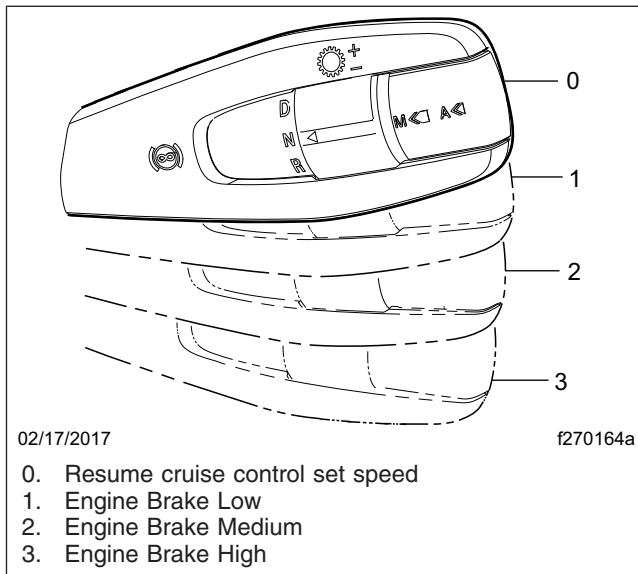

Fig. 7.3, Descent Control Mode Engine Brake Positions
3. Set the engine brake to any of the three 'on' positions as shown in Fig. 7.3.
While in cruise control, activate deceleration mode turning on the engine brake using the right-hand stalk switch as shown in Fig. 7.3. The vehicle decelerates at a constant rate until the vehicle comes to a stop, unless the accelerator pedal is applied to override the deceleration, or the right-hand stalk switch is moved to 'off' position.